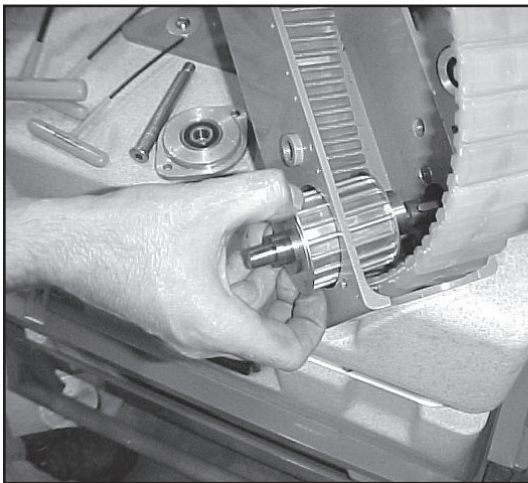

Figure 11
11. Slide drive sprocket out through hole (Figure 11)